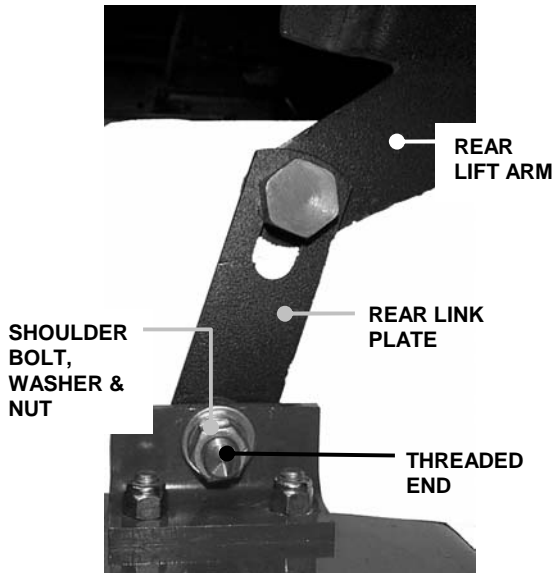

FIGURE 3.10
4. Remove shoulder bolts, washers and nuts from rear lift arm. See Figure 3.10.